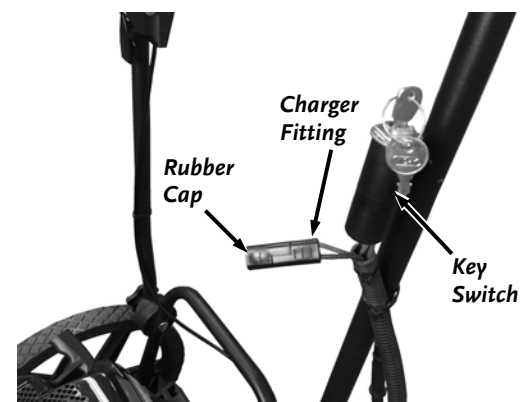

Figure 41
1. Remove the Rubber Cap from the Charger Fitting located near the Key Switch (**Figure 41**).